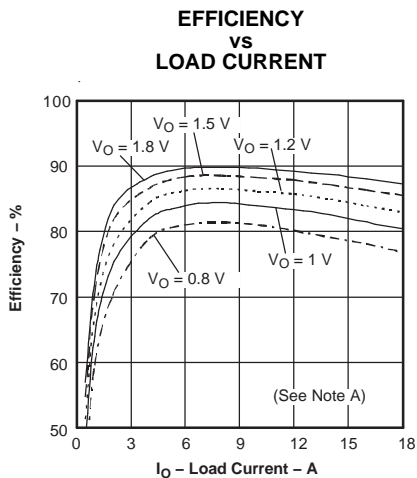
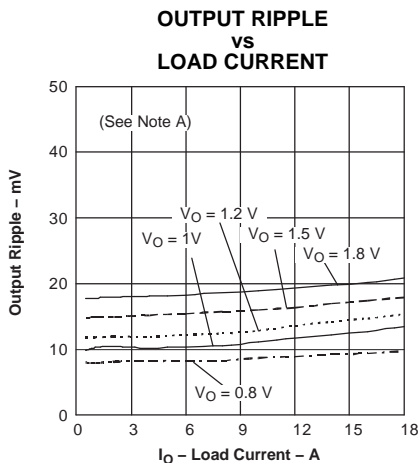
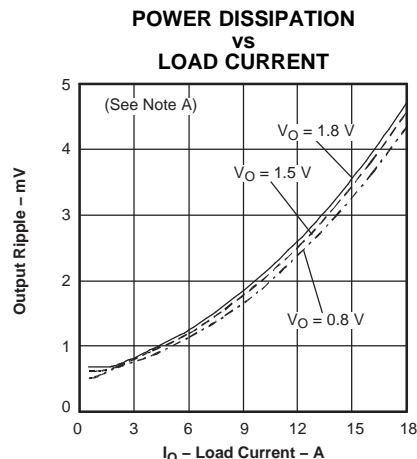

Figure 7.
Figure 8.
Figure 9.
- (1) Note A: The electrical characteristic data has been developed from actual products tested at 25°C. This data is considered typical for the converter. Applies to Figure 7, Figure 8, and Figure 9.